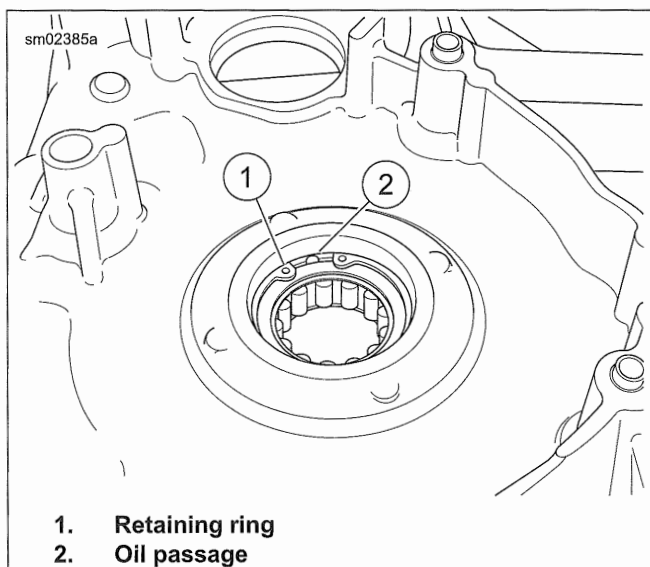

Figure 5-30. Retaining Ring Orientation
2. See Figure 5-30. Remove retaining ring (1).
4. See Figure 5-30. Install retaining ring.
- a. Retaining ring (1) must not block oil passage (2).